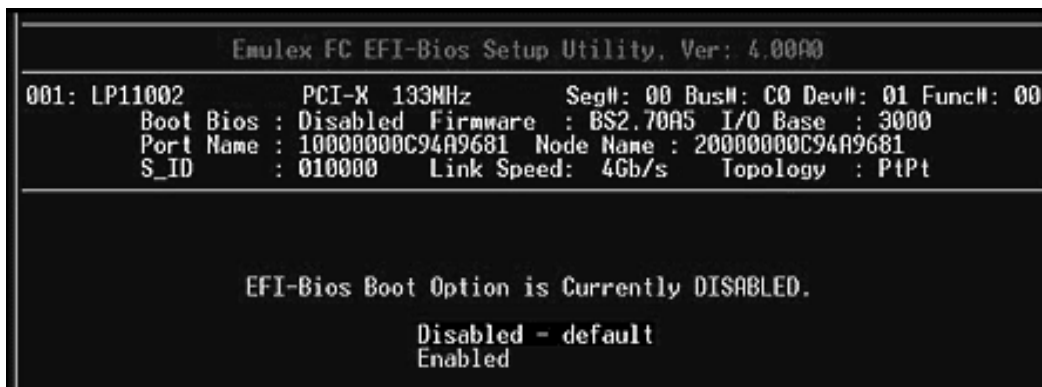

Figure 27: BIOS Status screen
2. Select **1. Enable or Disable BIOS** and press **<Enter>**. The current BIOS status is displayed (Figure 27).